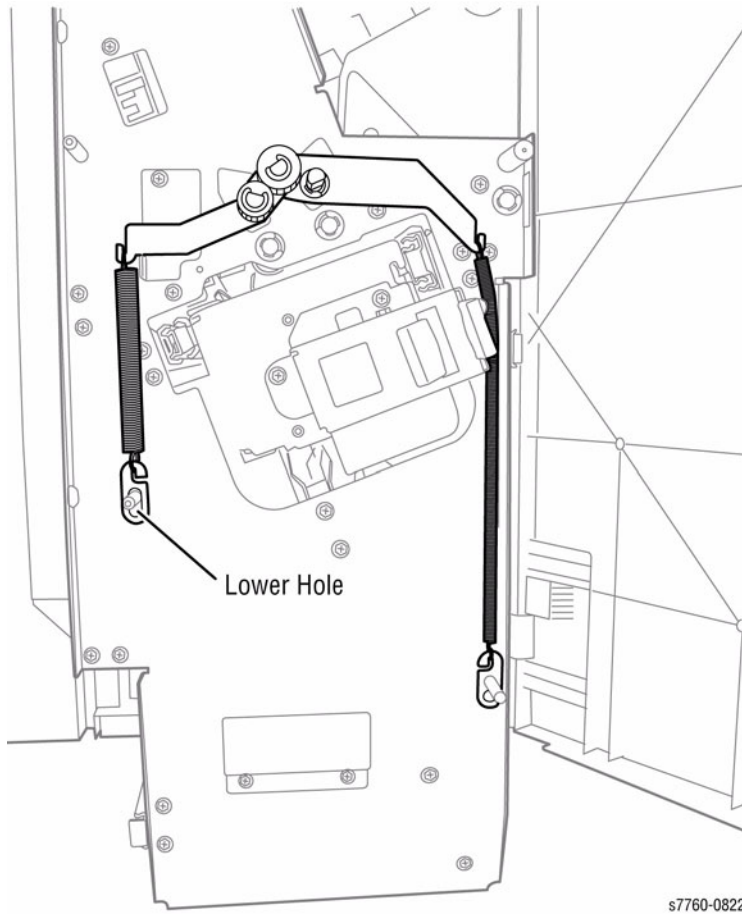

Figure 3 Adjusting the Front Spring Tension
4. Adjust the Front Spring tension by moving the Spring to the Lower hole (Figure 3).